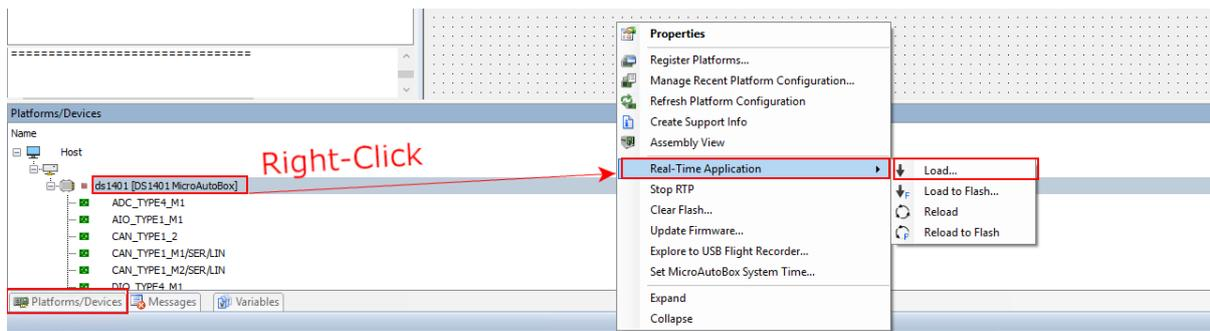
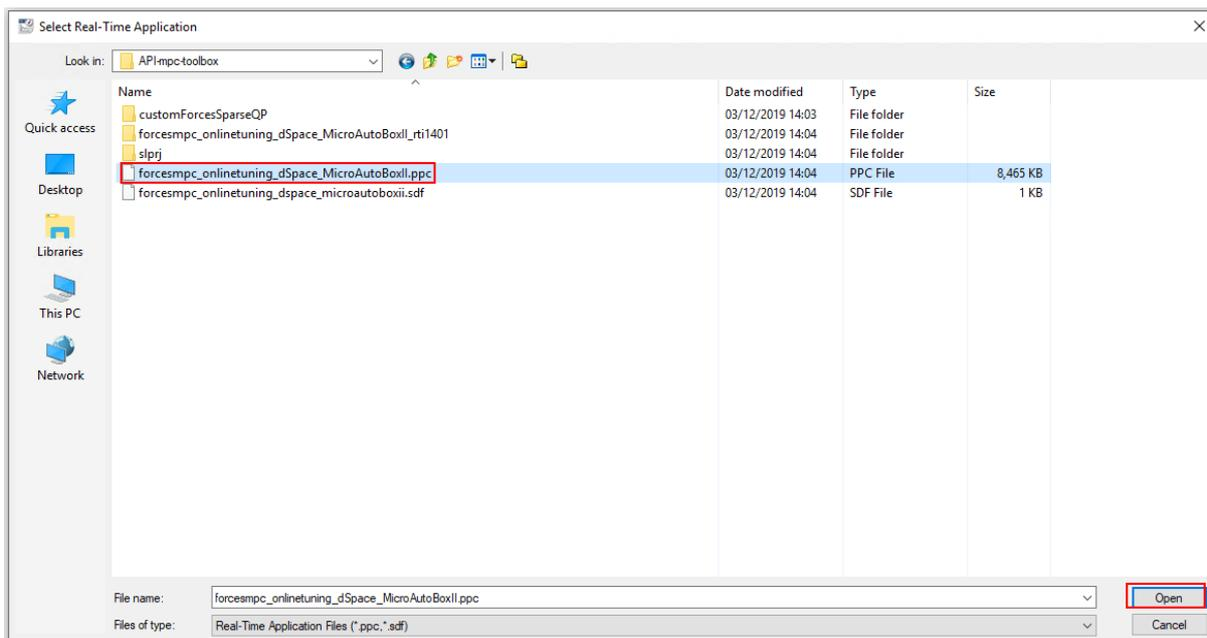

Figure 6.19: Load the application on the dSPACE MicroAutoBox II
Figure 6.20: Select the executable to run the experiment
- 15) Select the `Platforms/Devices` tab. Right-Click on your platform and select `Real-Time Application> Load`. Choose the executable file `forcesmpc_onlinetuning_dSpace_MicroAutoBoxII.ppc` (see Figure 6.19 and Figure 6.20).